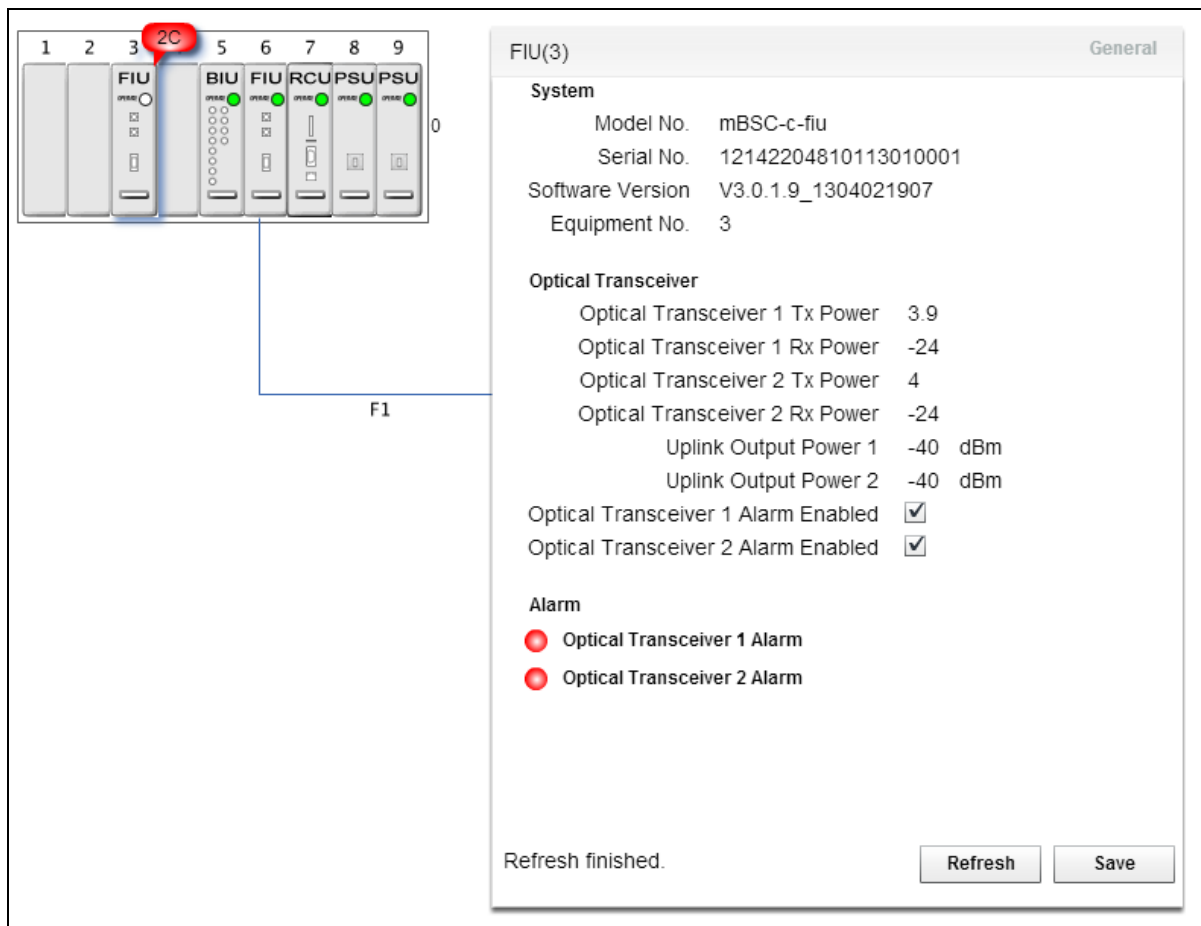

Figure 53 - Host Unit Alarm Status
- a. In the topology window the Downlink Output power is displayed next to the specific RU (e.g. 30.7 dBm indicated in the topology diagram by the 800MHz RU in Figure 53 – Up/Down Link Verification )